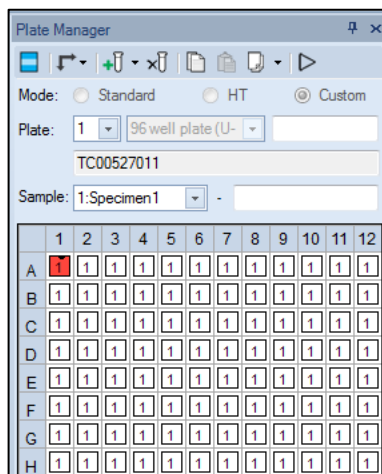

Figure 40. Display the Barcode Information in Plate Manager
- 6 Close the NovoSampler Q cover. Click **Run Plate** or **Run Single Well** to start the sample acquisition. NovoSampler Q will move the plate to the barcode reading position and the barcode will be read automatically. The acquired barcode information will be automatically displayed in the barcode information field in the Plate Manager panel as shown in Figure 40.